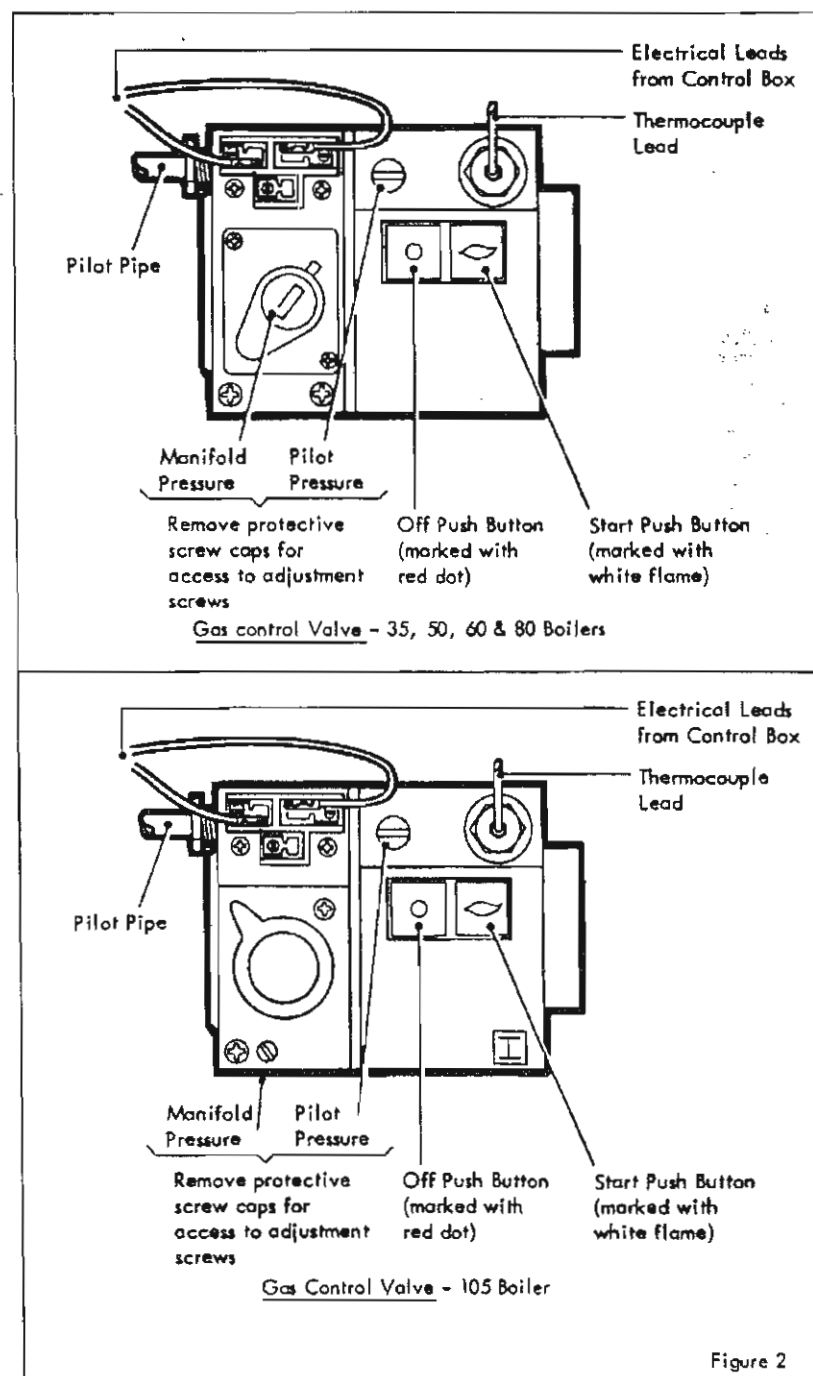

Figure 2
2. The pilot flame is about 25 mm (1") long (to adjust, remove the protective screw cap adjacent to the gas control buttons (Fig.2) and turn the screw then revealed clockwise to decrease or anticlockwise to increase the pilot flame length).
Table 2 gives details of rated boiler output with related manifold gas pressure and heat inputs. The location of the manifold pressure adjustment screw on the gas control is shown in Figure 2.
Reconnect the pilot pipe and thermocouple. Refit the burner to the boiler and reconnect the gas union, and the electrical leads to the gas control (Fig.2).